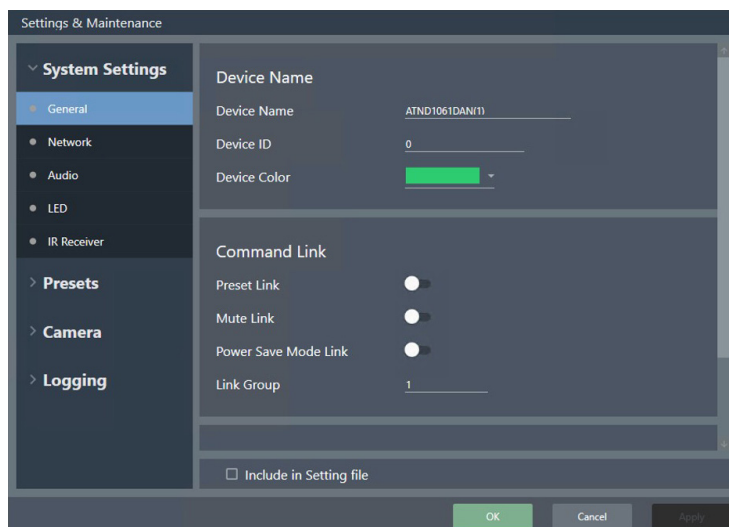

Figure 11. Settings & Maintenance General Panel
2. Click the gear in the right panel (see figure 10, ❷). The Settings & Maintenance screen opens (see figure 11).
- For switch settings, click the switch. Switches turn blue (ON) and no color (OFF).